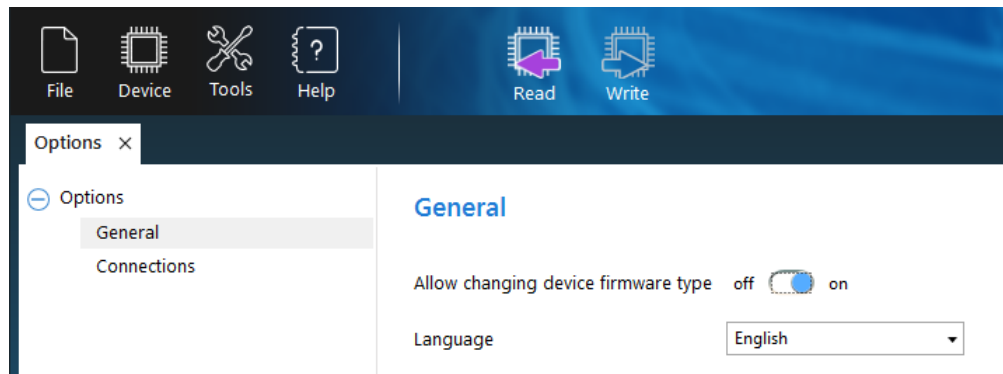

Figure 6: The device mode change is enabled
- a. On the **Tools** menu, click **Options**. In the right pane, make sure that the **Allow changing device firmware type** option is switched on (Figure 6).